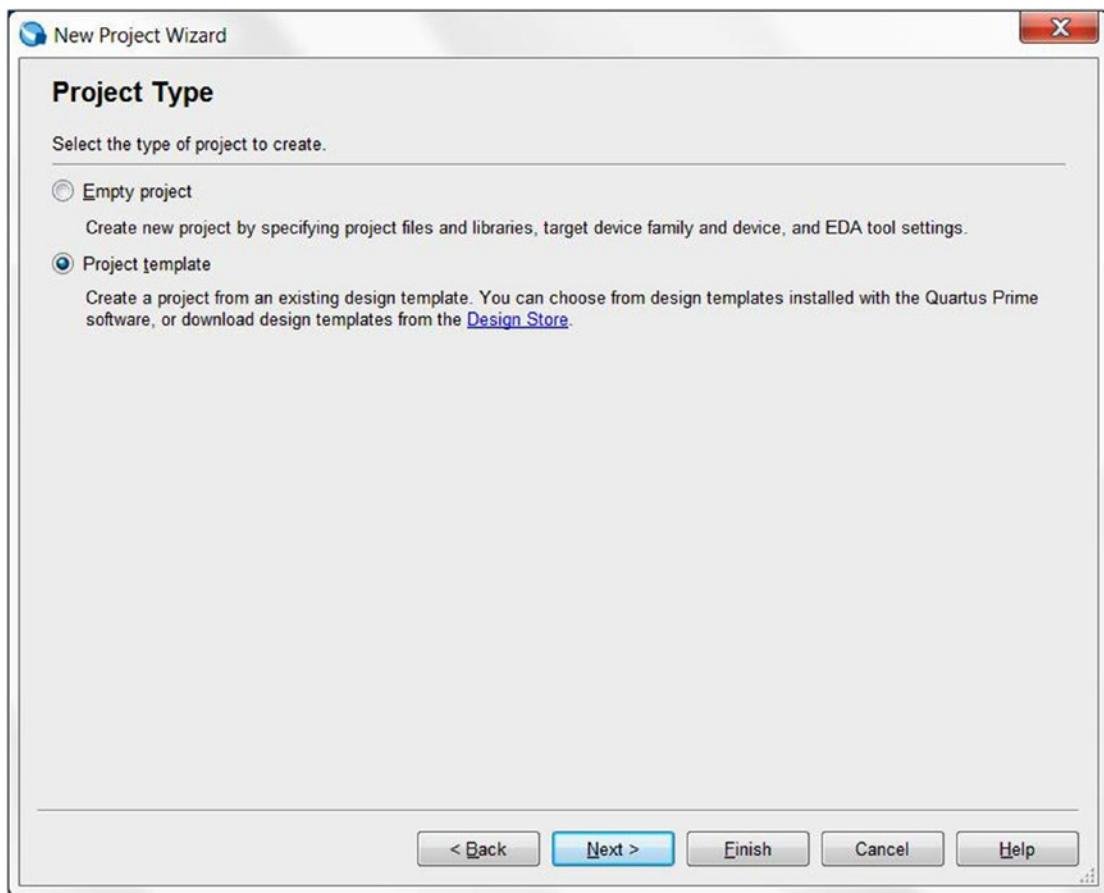
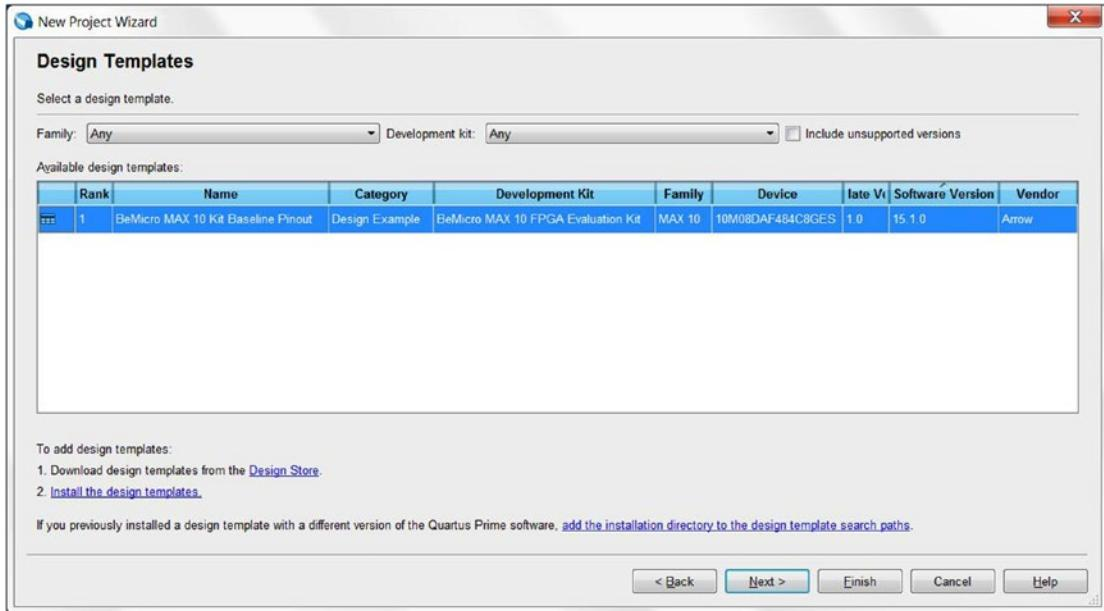

Figure 4-5. Quartus Prime New Project Wizard dialog box—Project Type
Figure 4-12. New Project Wizard—Design Templates with BeMicroMAX10 kit Baseline Pinout template install
5. Select **Project template** and then click **Next** (shown in Figure 4-5).
13. The design templates page will change from Figure 4-5 to Figure 4-12. Click the **BeMicro MAX10 Kit Baseline Pinout** templates (it should highlight the template) and then click **Next**.